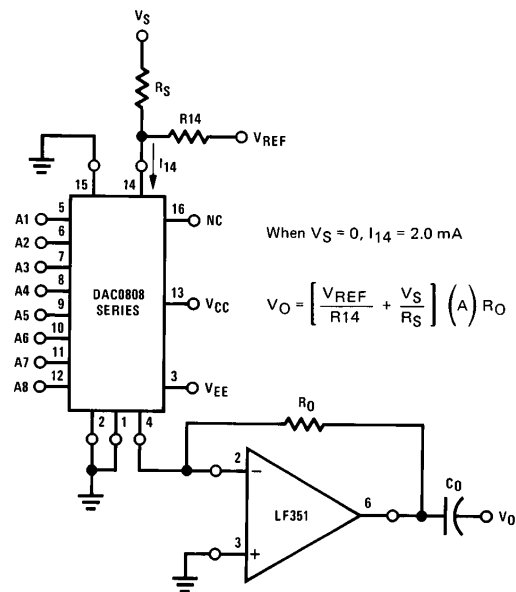

FIGURE 9. Programmable Gain Amplifier or Digital Attenuator Circuit (Note 7)
**Curve C:** Large and Small Signal Bandwidth Method of Figure 9 (no op amp,  $R_L = 50\Omega$ ),  $R_S = 50\Omega$ ,  $V_{REF} = 2V$ ,  $V_S = 100 \text{ mVp-p}$  centered at 0V.